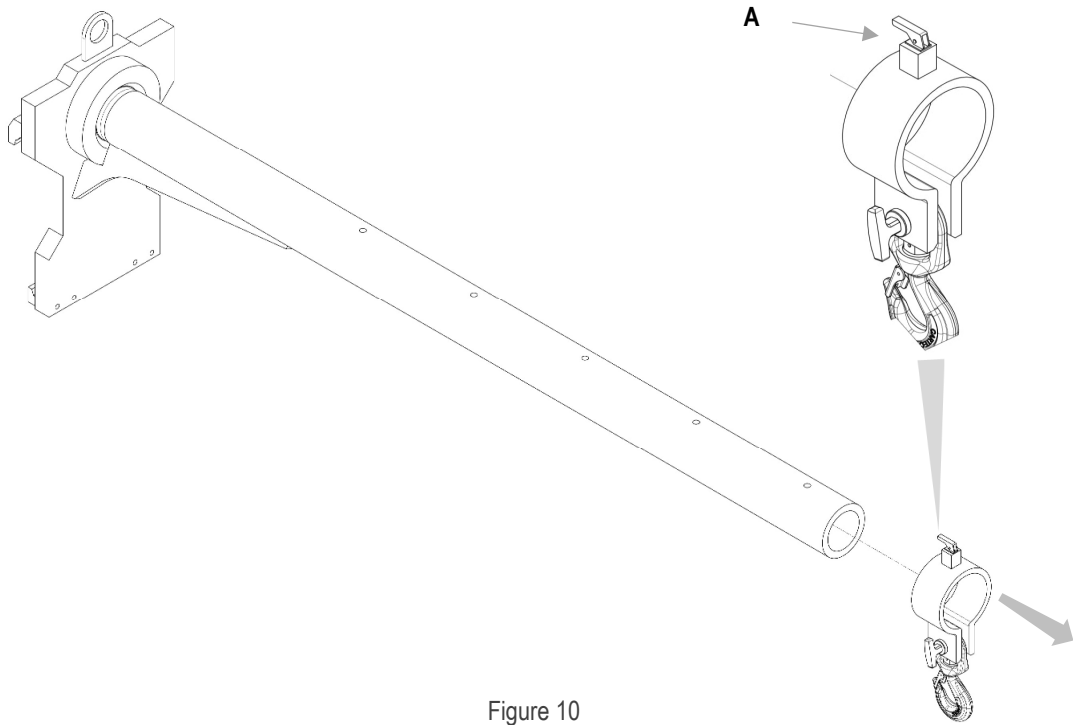

Figure 10
2. Lift the ratchet (**A**) and slide the collar out (Figure 10)